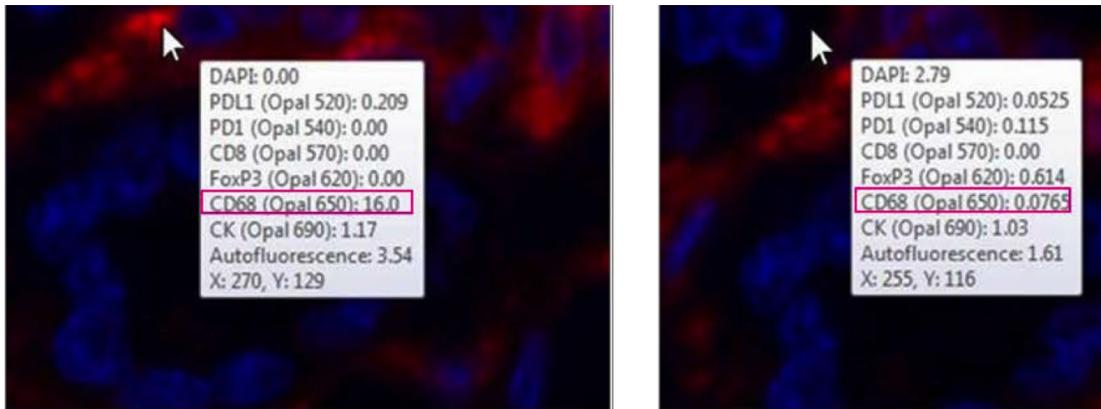

FIGURE 9.
- a. View the brightest and weakest signals on positive cells on the slide to see if they are within range (Fig. 9).